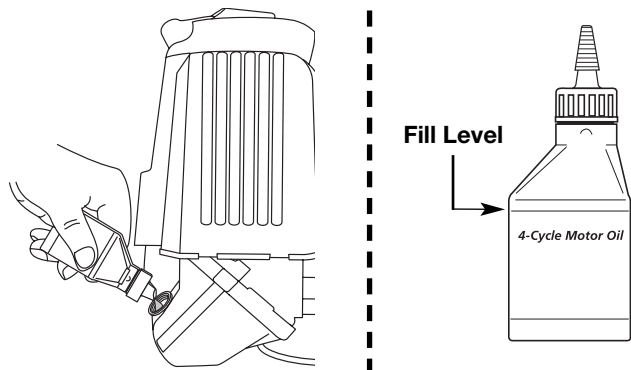

Fig. 31
**NOTE:** Use the bottle and spout saved from initial use to measure the correct amount of oil. The top of the label on the bottle measures approximately 3.04 ounces (90 ml) (Fig. 31). Check the level with the dipstick. If the level is low, add a small amount of oil and recheck. Do not overfill (Fig. 31).